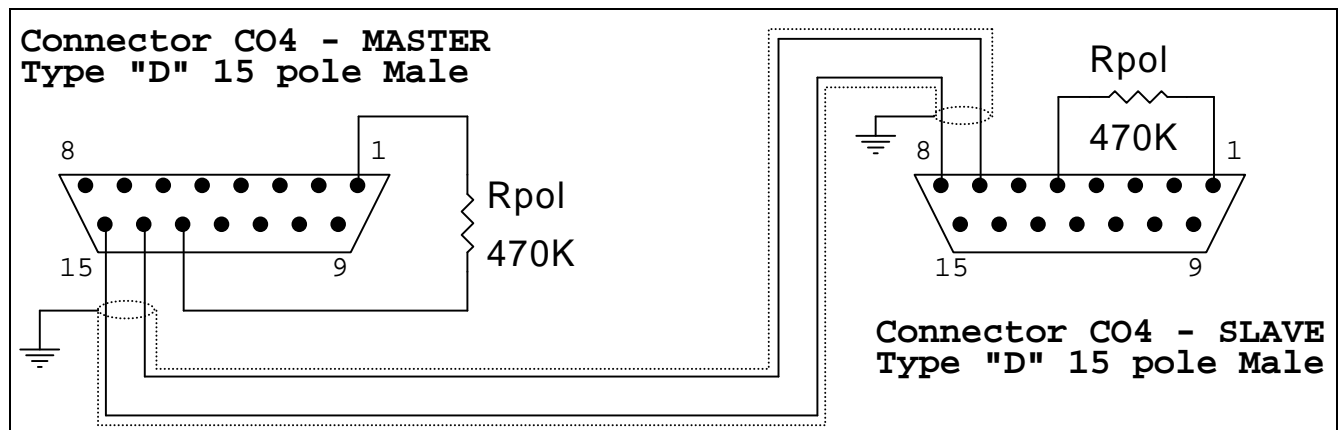

Figure 18
2. To calculate the value of the resistances "Rpol" suitable in the Figure 18 that regulate the current of opposition in the motors, respecting the followings points: